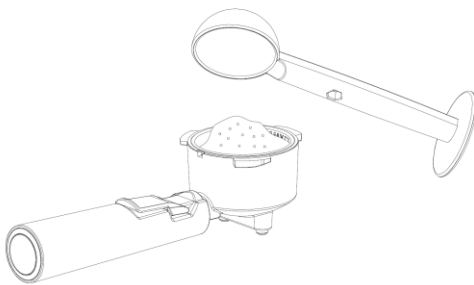

Fig. 4
1. Using the spoon supplied, fill the filter with **fresh ground coffee** (fig. 4).